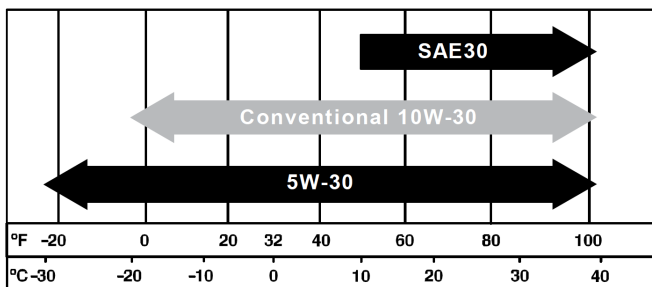

Figure 19 - Recommended Oil
1. Only use the engine oil specified in Figure 19.
6. Select the proper engine oil as specified in Figure 19.